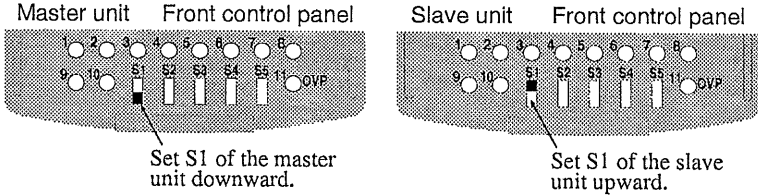

Fig. 3-10 Presetting of control switches for master-slave-control series operation
- ① Turn off the OUTPUT switch of each unit.
- ② Turn off the POWER switch of each unit.
- ③ Determine the master unit.
- ④ Set the control switch S1 of the master unit and slave units to the positions shown in Fig. 3-10.